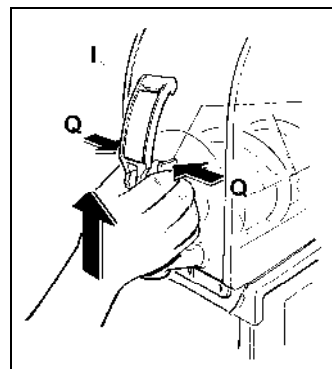

Fig. 16
- Simultaneously apply pressure to the two securing tabs (Q), and lift the dispensing tap (I) to pull it out of its fixed position (see figure 16).